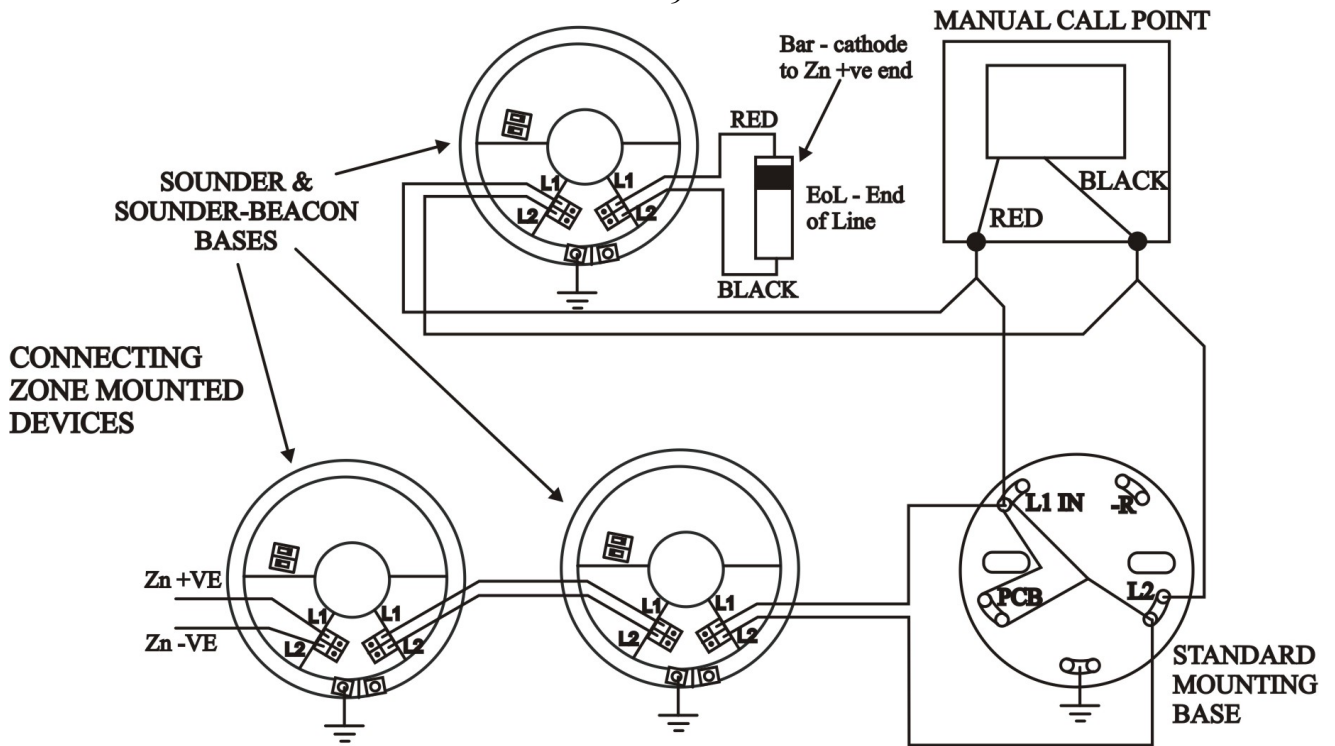

Figure 1. Wiring Alarm Sense Zone Mounted Devices
8. Detector bases, Manual Call Points (MCPs) and zone sounders are connected correctly – Figure 1